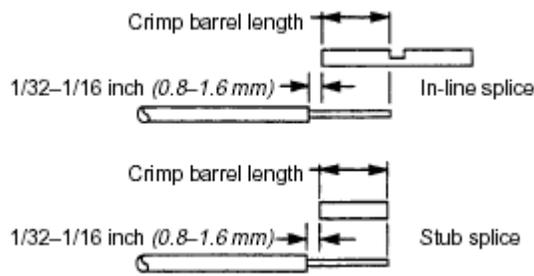

Figure 20-11 Strip Length
2. The strip length for a particular crimp splice equals the length of the crimp barrel plus $1/32$ – $1/16$ inch (0.8–1.6 mm) as shown in Figure 20-11.